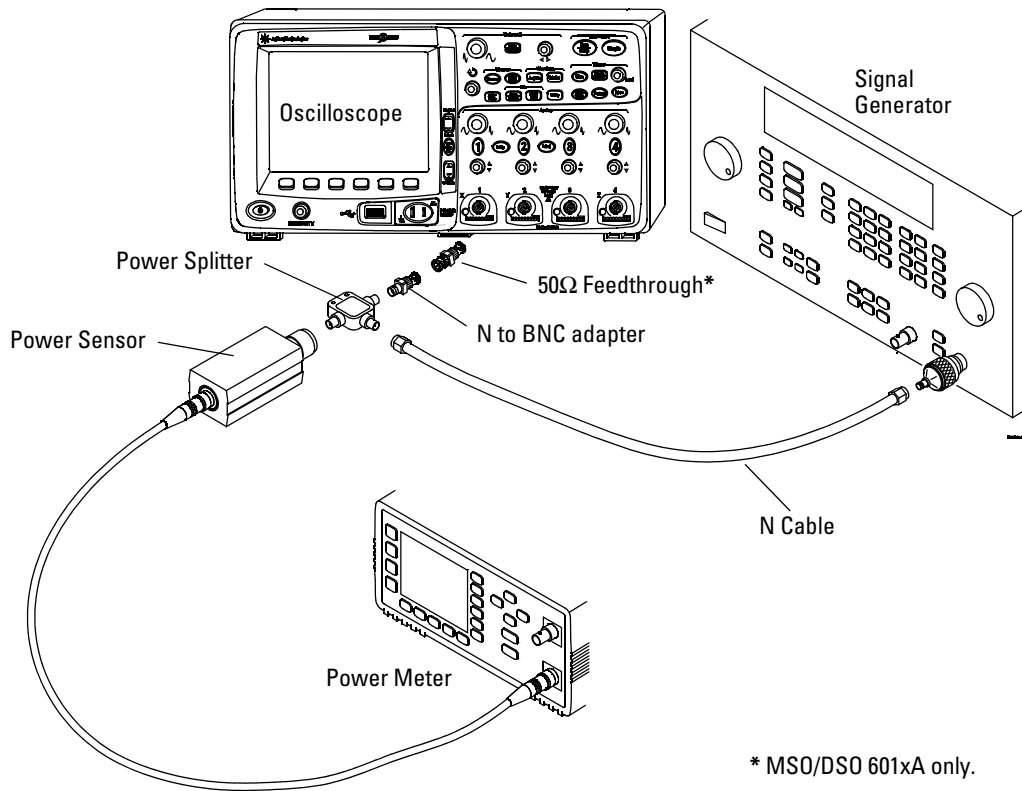

Figure 5 Connect equipment
- 1** Connect the equipment (Figure 5).